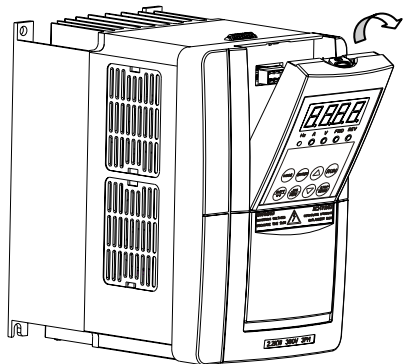

Fig. 3-8 Mounting Demonstration of the operator panel and connecting wire of the inverter Model A
Step 1. Button up with a hand at the notch of the upper part of operator panel and remove the operator panel (as shown in the figure 3-8).